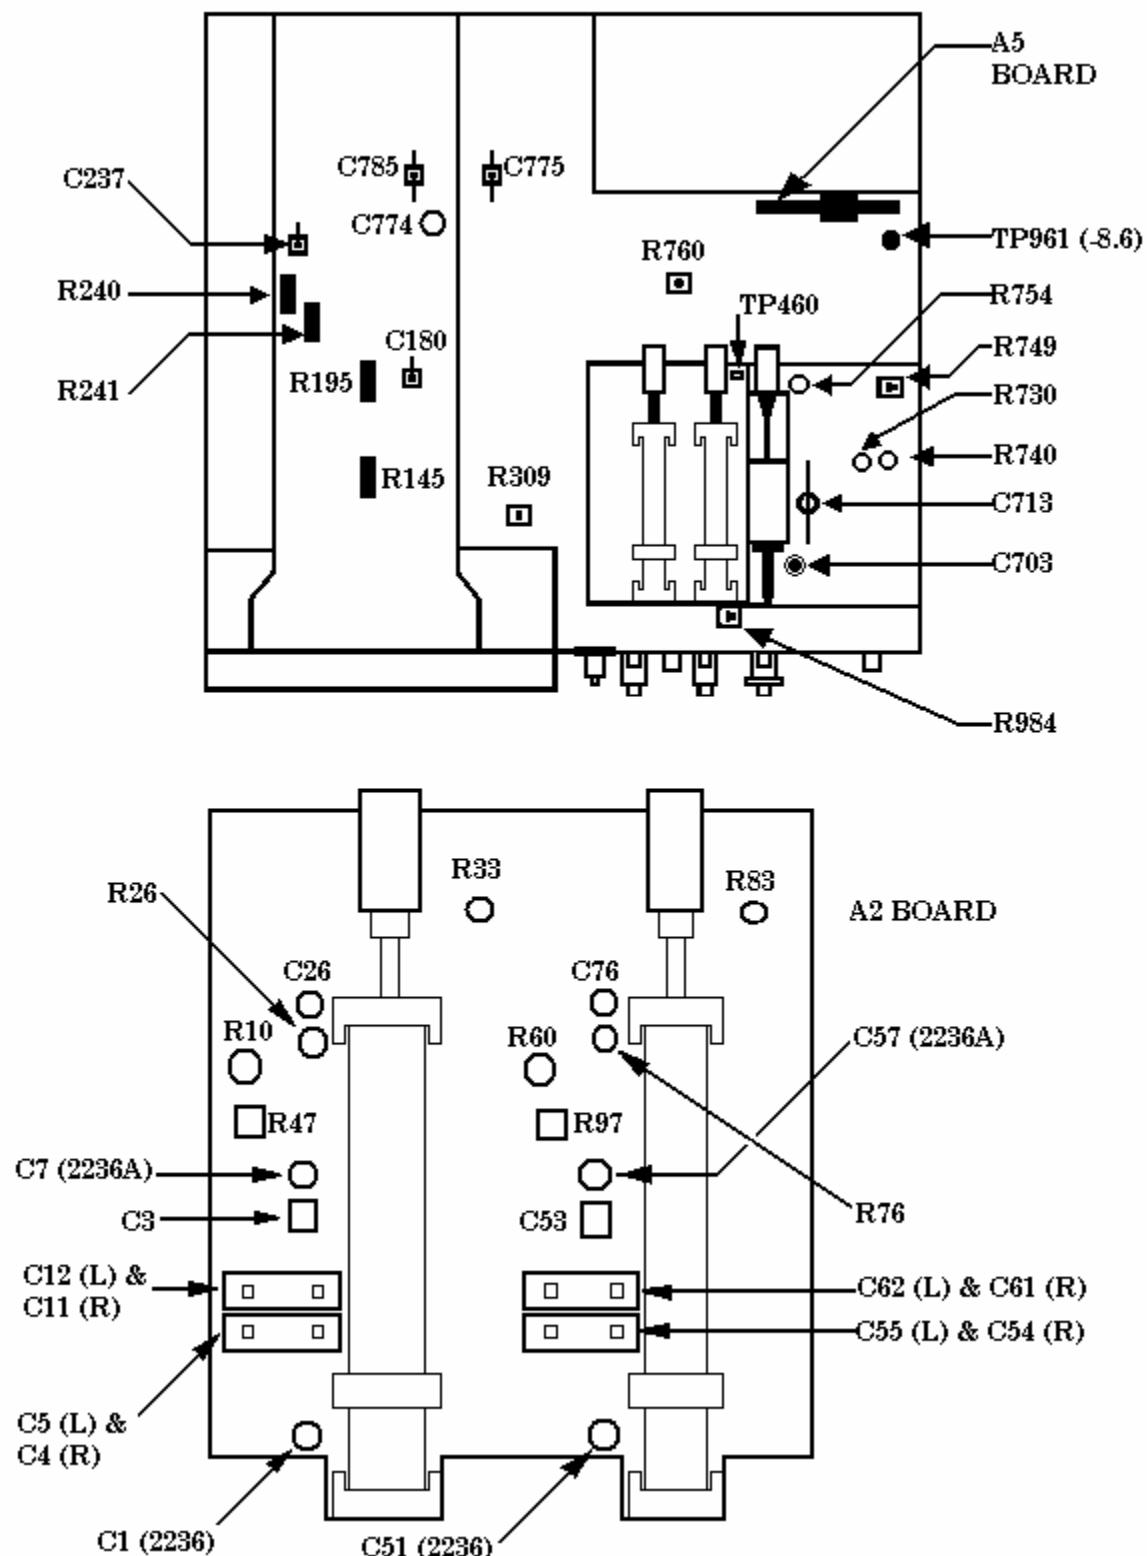

Figure 1. Adjustment locations – top view.
- (1) Disconnect equipment setup.
- (2) Set **CH 1 AC GND DC** switch to **AC**.
- (3) Set **CH 1 VOLTS/DIV** switch to **50m**.
- (4) Adjust **CH 1  $\pm$ POSITION** control to position trace on center horizontal graticule line.
- (5) Set **CH 1 VOLTS/DIV** switch to **5m**.
- (6) Adjust R10 (fig. 1) to position trace on center horizontal graticule line.
- (7) Repeat (3) through (6) above for minimum trace shift when setting **CH 1 VOLTS/DIV** from **50m** to **5m**.
- (8) Adjust **CH 1  $\pm$ POSITION** control to position trace on center horizontal graticule line.
- (9) Set **CH 1 VOLTS/DIV** switch to **2m**.
- (10) Adjust R33 (fig. 1) to position trace on center horizontal graticule line.
- (11) Set **CH 1 VOLTS/DIV** switch to **5m**.
- (12) Repeat (8) through (11) above for minimum trace shift when setting **CH 1 VOLTS/DIV** from **5m** to **2m**.
- (13) Connect oscilloscope calibrator CHAN 1 to TI CH 1 using a  $50\Omega$  feedthrough termination.
- (14) Position TI switches as listed in (a) through (c) below:
- (15) Set oscilloscope calibrator for an **EDGE** mode output of 10 kHz and adjust for 5 divisions of vertical deflection on TI.
- (16) Adjust TI **CH 1** **POSITION** control to position top of waveform to center horizontal graticule line.
- (17) Adjust C3 (fig. 1) and R47 (fig. 1) best square corner and flat top.
- (18) Remove  $50\Omega$  feedthrough termination and connect oscilloscope calibrator **CHAN 1** to TI **CH 1**.
- (19) Set oscilloscope calibrator for a **VOLT** mode output of 10 mV at 1 kHz.
- (20) Position TI controls as listed in (a) through (c) below:
- (21) Adjust R26 (fig. 1) for 5 divisions of TI vertical deflection (R).
- (22) Set TI **CH 1 VOLTS/DIV** switch to **10m**.
- (23) Set oscilloscope calibrator for a 50 mV output.
- (24) Adjust R145 (fig. 1) for 5 divisions of vertical deflection on TI (R).
- (25) Connect oscilloscope calibrator **CHAN 1** to TI **CH 1** using a 5-80 pF standardizer.
- (26) Set oscilloscope calibrator for an **EDGE** mode output of 1 kHz and adjust for 5 divisions of vertical deflection on TI.
- (27) Adjust 5-80 pF standardizer for optimum square wave.
- (28) Adjust C7 (2236A) (fig. 1) or C1 (2236) (fig. 1) for best flat top.
- (29) Set TI **CH 1 VOLTS/DIV** switch to **.1**.
- (30) Replace 5-80 pF standardizer with  $50\Omega$  feedthrough termination.